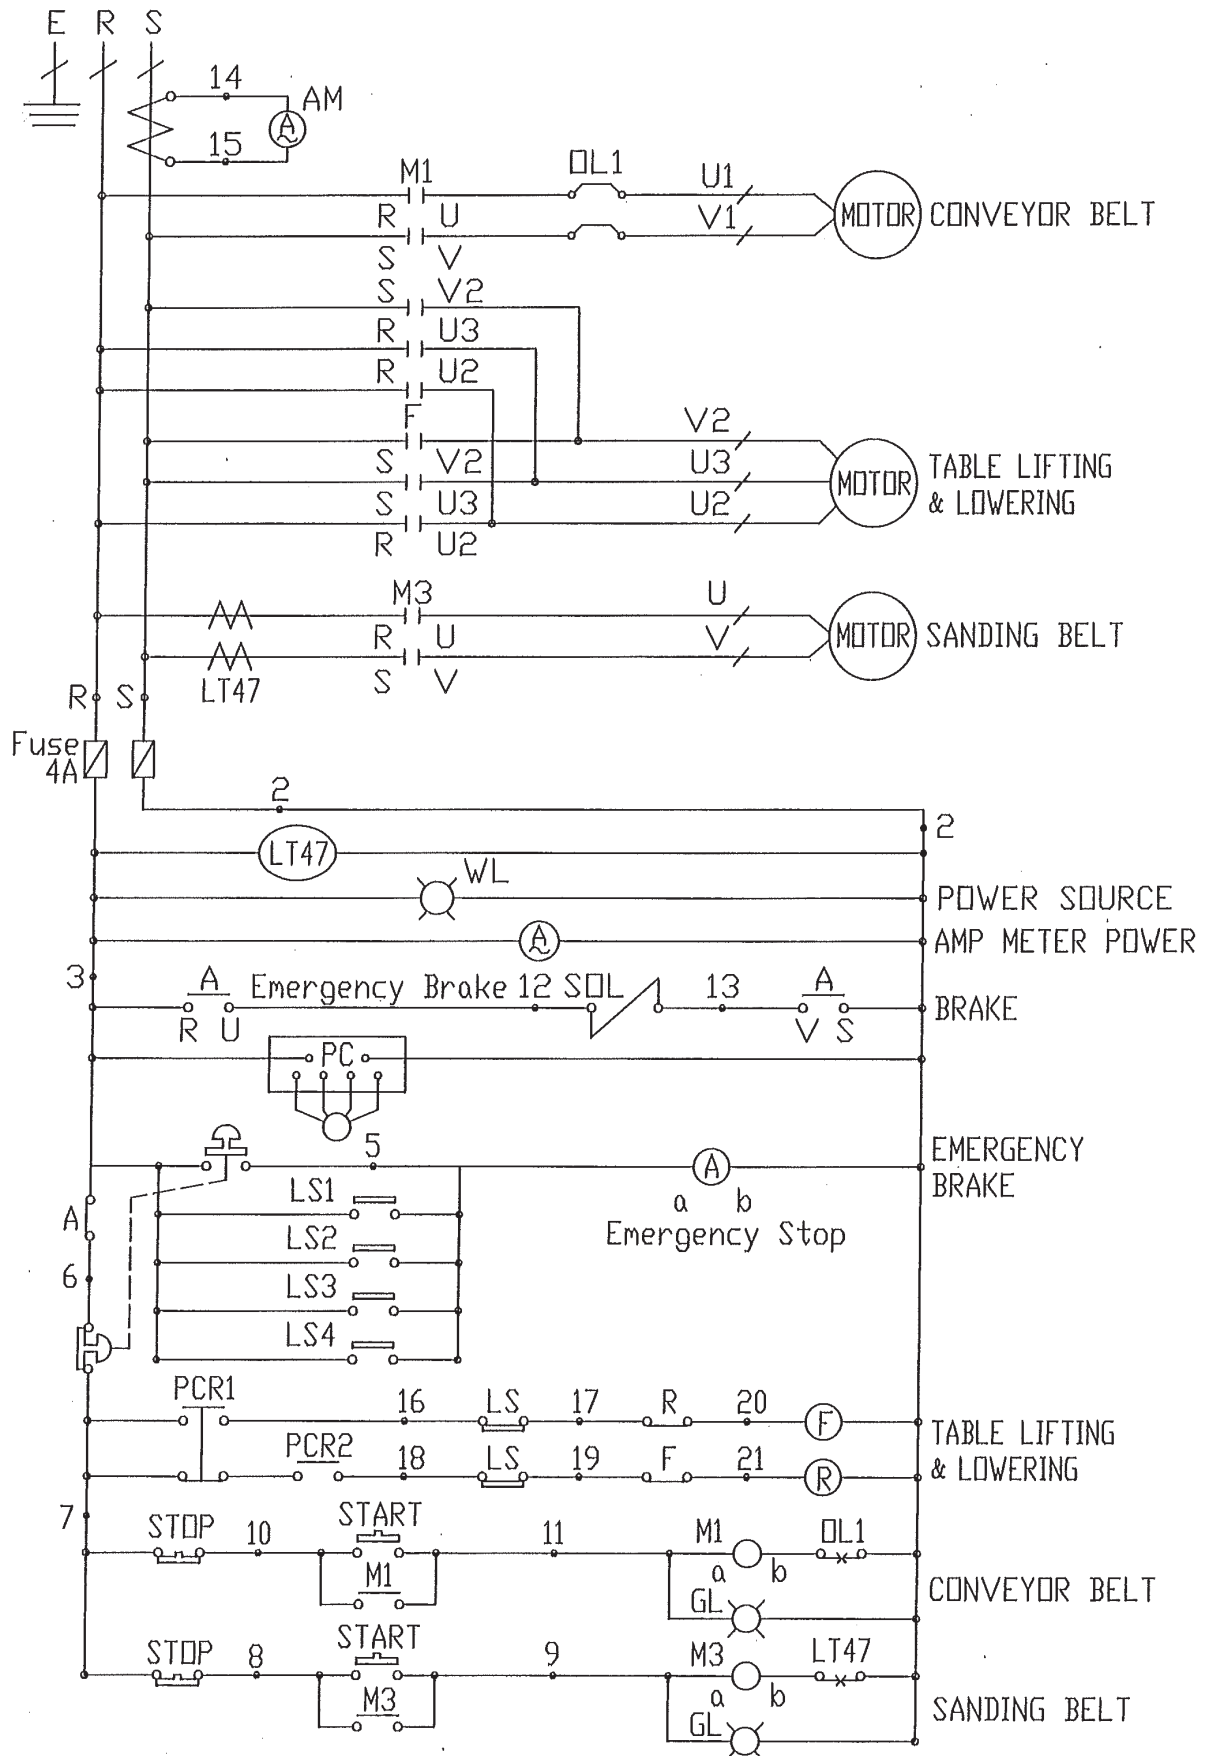

Figure 24. Air Stream adjustment knob.
4. Loosen the jam nut and turn the jet adjustment knob (Figure 24) clockwise until the air stream is reduced to a minimum.